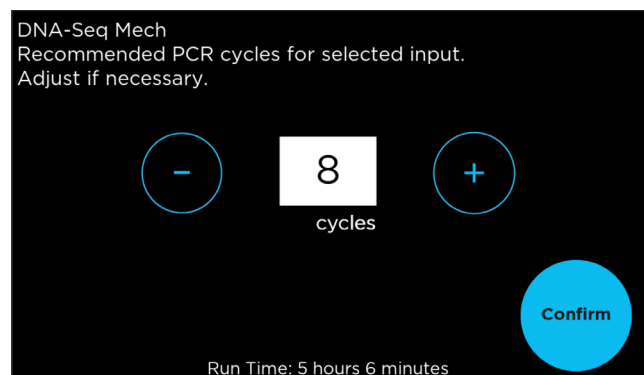

Figure 13. Confirm or adjust the number of PCR cycles for your run.
8. A summary of the run parameters is displayed (Figure 13). If you need to revise these parameters, touch “Open door” and repeat the run setup procedure. If the displayed run parameters are correct, touch “Start” to start the run.